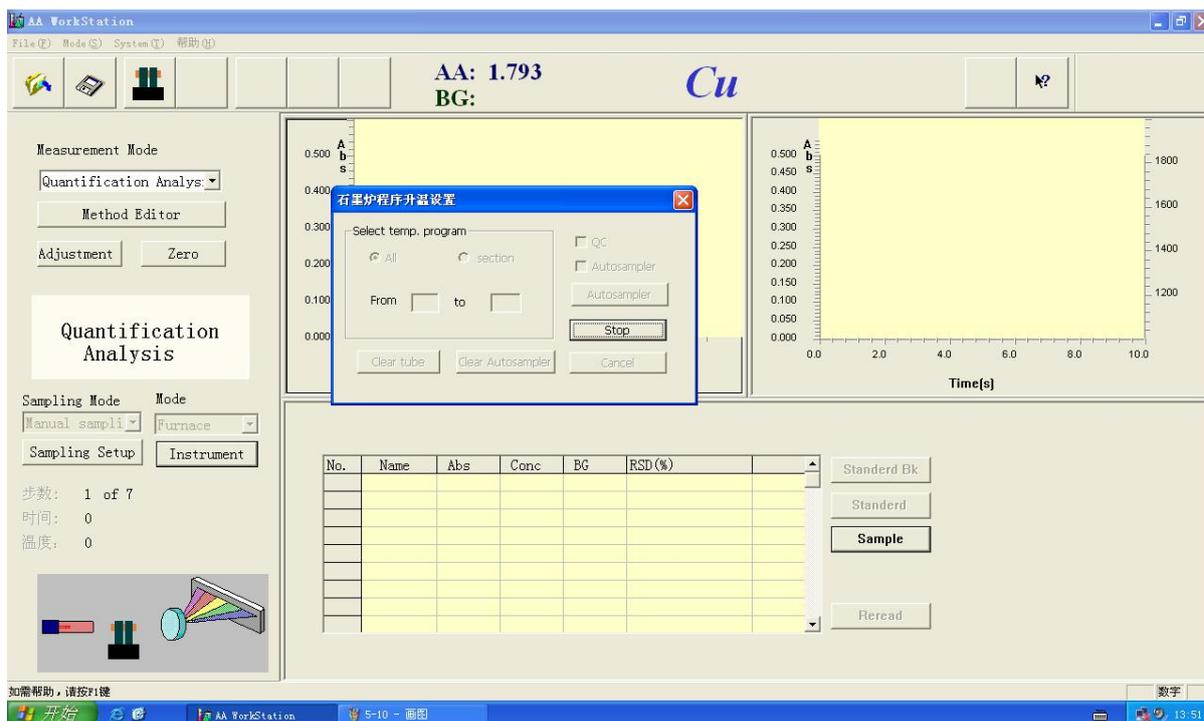

Figure 5-11
15. At this time, the “Start” change into “Stop”(Figure 5-11)